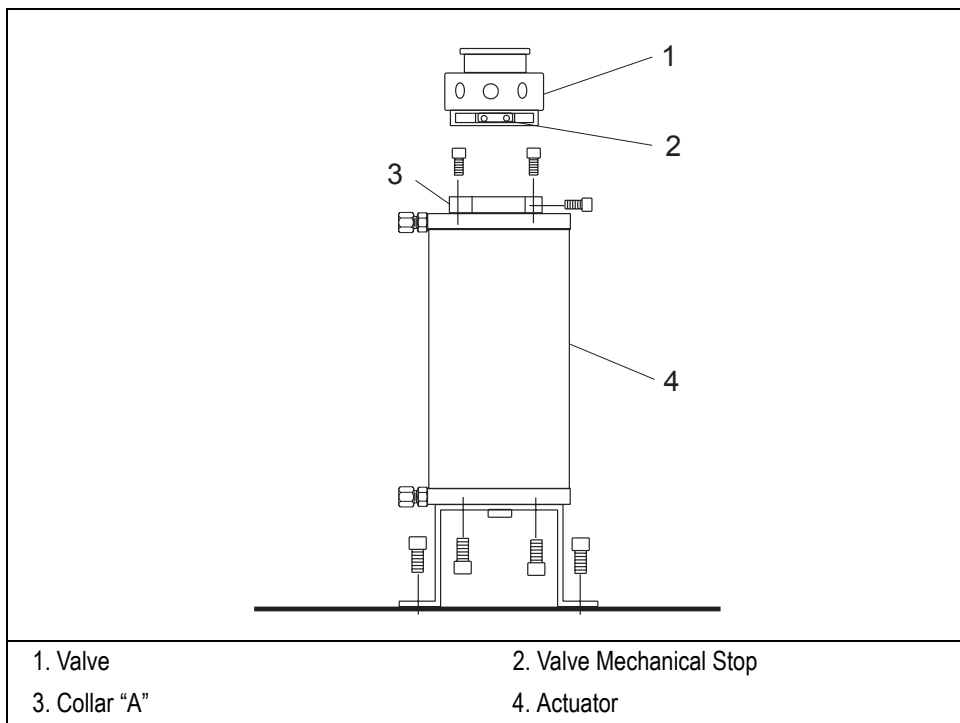

Figure 2-6. Installing an Unheated Compartment Valve
1. Install the bracket to the lower portion of the actuator using two M4 x 10 screws (Figure 2-6).
2. Select the desired set of holes and secure the valve bracket to the holes using M 4 x 10 screws (Figure 2-6).